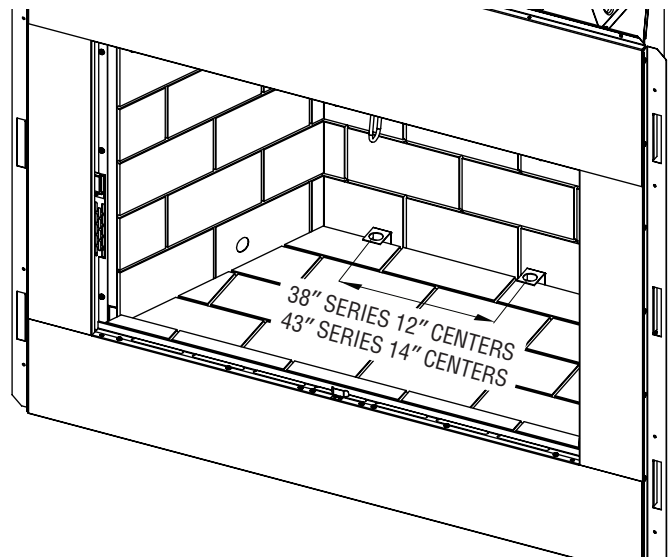
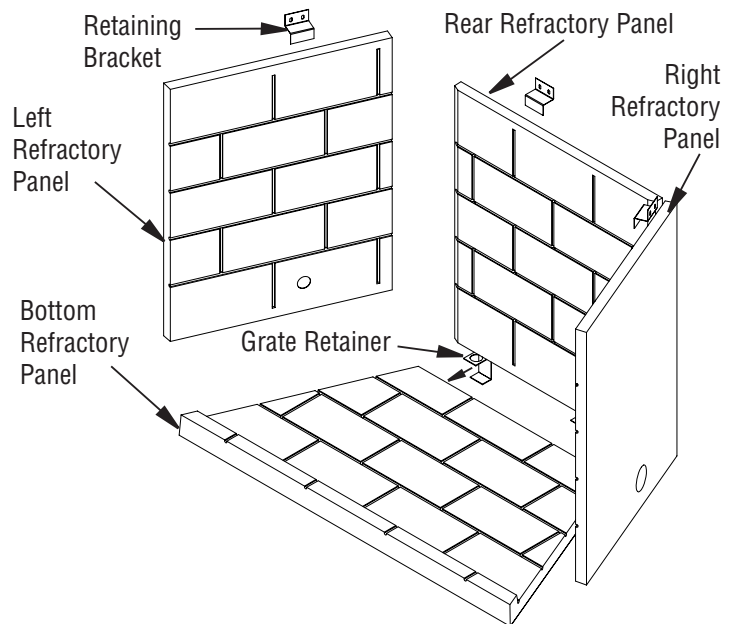
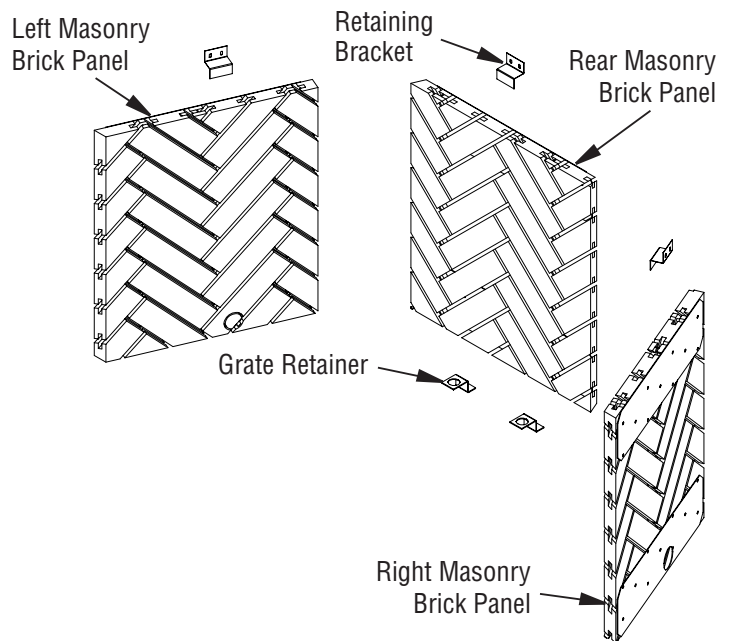

Figure 33 - Installing Grate Retainers
Figure 34 - Installing Refractory Panels
Figure 37 - Installing Masonry Brick Side and Rear Panels
3. Install rear refractory panel. This panel has a top and bottom. To determine which is the top or bottom, match up the pattern on the rear panel with the left and right sides before installing the rear panel. Align the left and right panels with the rear panel so the grout lines line up. Install the retaining bracket and tighten set screws (Figure 33).
4. Install the right and left refractory panels with the gas line knock-outs oriented down toward the firebox bottom. Install the retaining brackets and tighten set screws (Figure 34).
5. Position grate retaining brackets toward the rear of the bottom refractory (see Figure 34). They should be positioned a distance apart as shown in Figure 33.
6. Install refractory hearth panel, insert the front of the panel tilted then slowly let the rear portion go down. Make sure the front of the hearth is flush with the fireplace and the grate retaining brackets are centered (see Figure 33)
3. Place the provided grate retainers on the masonry brick hearth as shown in Figure 37 and refer to Figure 33, page 17 for correct distance.
4. Install the rear masonry brick panel last. Place the rear masonry brick panel against the back of firebox align flush with left and right masonry brick panels and secure with retaining brackets and screws (provided) see Figure 37.